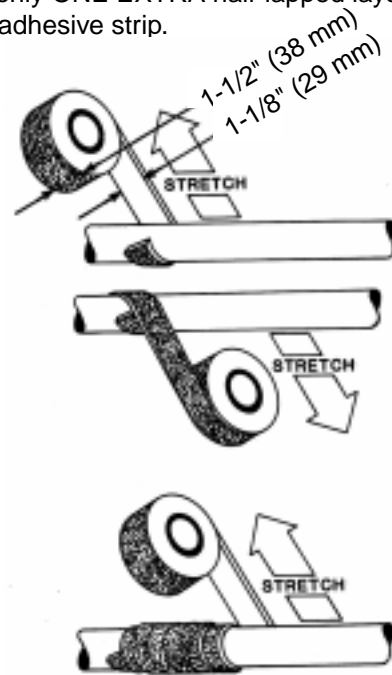

FIGURE 27 - APPLYING LOCK-TAPE STRIP (SEE FIGURE 9)
- 6.38** Half-lap 1-1/2" (38 mm) LOCK-TAPE strip around cable (black side up) in area coated with "C" cement. Stretch tape to reduce its width to 1-1/8" (29 mm) while applying. Use one or two half-lapped layers as determined by the previously made measurement. (Figure 27)